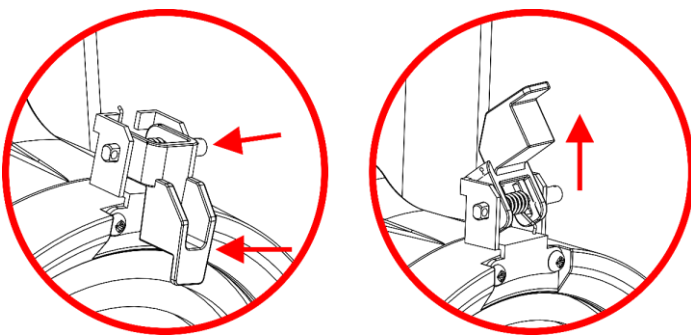

Fig. 10
- 01) Release the retaining clip by pressing the lock towards the lens and pressing on the longer side of the screw. The retaining clip will open (see Fig. 10).